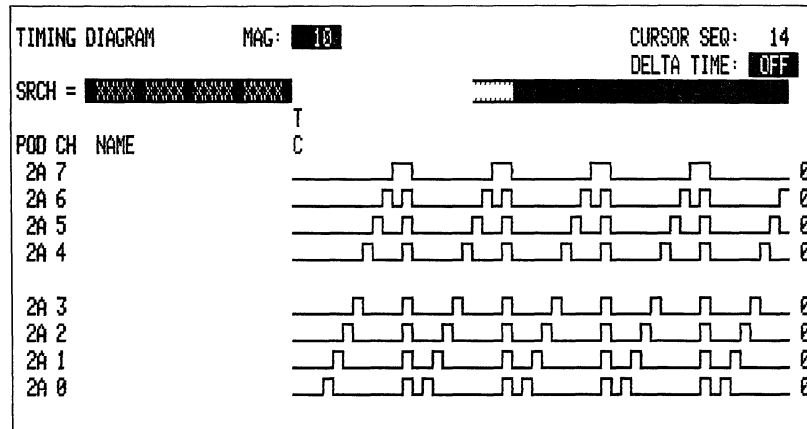

Figure 5-20. Initial test data acquired by the 91A32.
5. Examine the Timing Diagram menu. If pod D of the 91A32 being checked is not shown on the display, adjust the menu to show the data acquired by this pod. Set the magnification of the Timing Diagram to 10; this should result in a display like Figure 5-20.
4. Enter the Timing Diagram menu and adjust the display to show pod 2C's data. The display should again look like Figure 5-20.
(6) Verifying Pod Connector B
8. Enter the Timing Diagram menu and adjust the menu to show data acquired by pod 2B. The data acquired through pod B should look like Figure 5-20. Proper data verifies that pod B acquires data and that qualifier B operates.
12. The data acquired through pod B should look like Figure 5-20 when viewed on the Timing Diagram menu. Proper data verifies that the inversion of qualifier B operates.
5. The data acquired through pod A should look like Figure 5-20 when viewed on the Timing Diagram. Proper data verifies that pod A acquires data and that the inversion of qualifier A operates.
9. The data acquired through pod A should look like Figure 5-20 when viewed on the Timing Diagram menu. Proper data verifies that qualifier A operates.
4. Look at the data acquired through pod 2A on the Timing Diagram. The data should look like Figure 5-20.
7. Look at the data acquired through pod 2A on the Timing Diagram. The data should look like Figure 5-20. Proper data verifies the operation of the inversion of the 91A32 module's external clock.